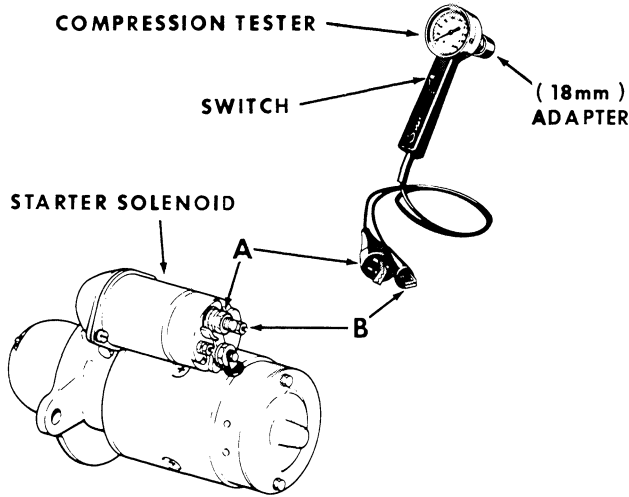

Figure 1
A. When using the remote control type of compression tester, Figure 1, make sure the wires are correctly attached to the starter terminals. Incorrect attaching of the wires will cause damage to the testing equipment, Figure 1.